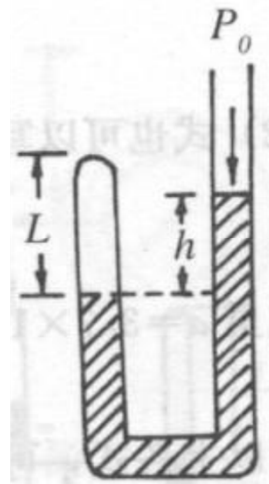

Fig. 5
6. A uniform U-shaped glass tube (Fig. 5) with a closed end on the left and an open end on the right, connected to air with the atmospheric pressure P_0 . It is filled with mercury and the difference of mercury level between the two sides is h . The length of the air column on the left hand side is L . If we let the U-shaped glass tube fall freely vertically, what is the difference of mercury level between the two sides?